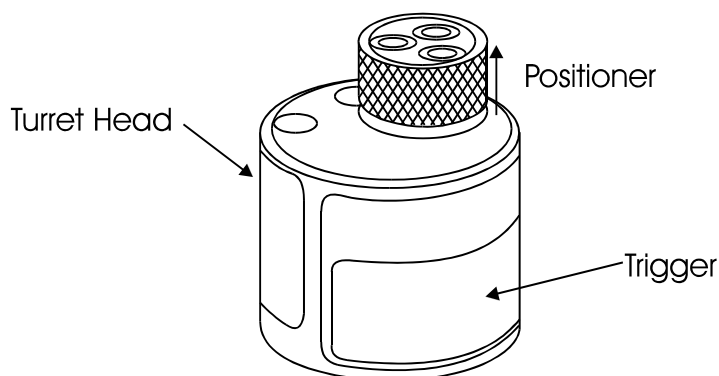

Figure 10-20 Crimp Tool Build Up and Adjustment
- b. Select the turret to suit the connector pin or socket. Each connector has a complete breakdown of information such as pin and contactor size, and the crimping tool required. Press the trigger on the turret head to release the positioner into the extended or indexing position, as illustrated in Figure 10-20.